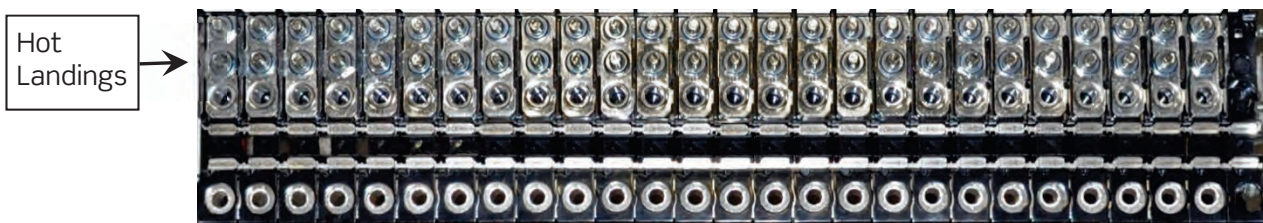

Figure 35 - Distribution Hot Connections
1. Make the corresponding cable (hot) connection above the device position (see Figure 35). Use ¼"-20 fastening hardware and torque according to the values found in Table 6 on page 37.
2. Plug in the over-current protection device (circuit breaker or fuse adapter) into the desired position. **Make sure the circuit is Off (O).**